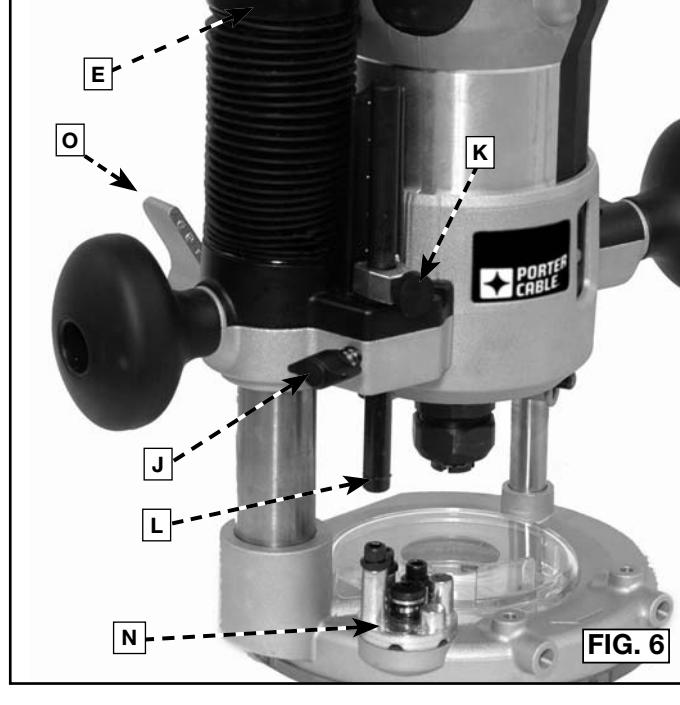
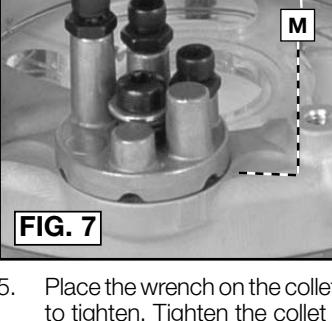
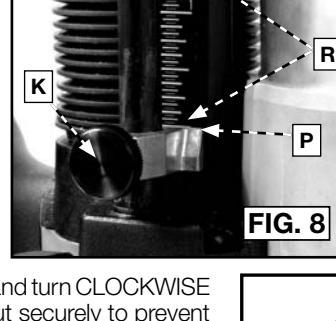

FIG. 6
FIG. 7
FIG. 8
- Remove the dust cap (E) Fig. 6 by pulling straight up.
- Loosen the depth rod locking knob (J) Fig. 6, and depth indicator knob (K), allowing the depth rod (L) to contact one of the turret stops (M) Fig. 7. Normally the deepest desired cut is set with the depth rod resting on the lowest point on the turret dial (N) Fig. 6. You can also utilize any combination of fixed and/or adjustable stops (M) to achieve the desired depth of cut.
2. Push the router down until the bit touches the work surface. Push the locking lever (O) down to lock the router in this position.
3. Tighten the depth-rod locking knob (J) Fig. 6.
4. Position the depth indicator (P) Fig. 8 at the "0" position and tighten the knob (K) Fig. 8.
5. Loosen the depth-rod locking knob (J) Fig. 6, and raise depth rod (L) until the indicator (P) Fig. 8 aligns with the desired depth of plunge measurement (R).
6. Tighten the depth-rod locking knob (J) Fig. 6.
2. Turn router upside down. Unlock lever (O) Fig. 6 and push the plunge base down (towards the motor) so that the pin extends up from the subbase (Fig. C2). Lock the lever (O) Fig. 6 to hold base in position.